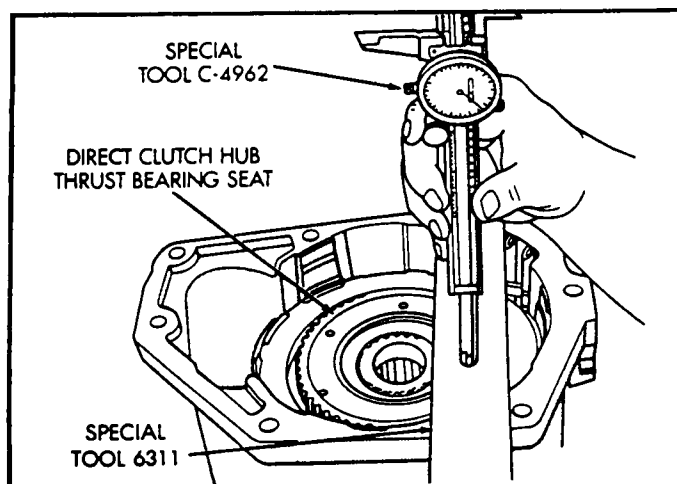

Figure 40
51. Place overdrive unit in vertical position and mount in vise, or on bench, with the appropriate size mounting hole cut into it. Be sure unit is facing hole upward for access to direct clutch hub, as shown in Figure 40.
59. Position Gauge Tool 6311 across face of the overdrive housing, shown in Figure 40. Then position dial caliper over the gauge tool (See Figure 40).